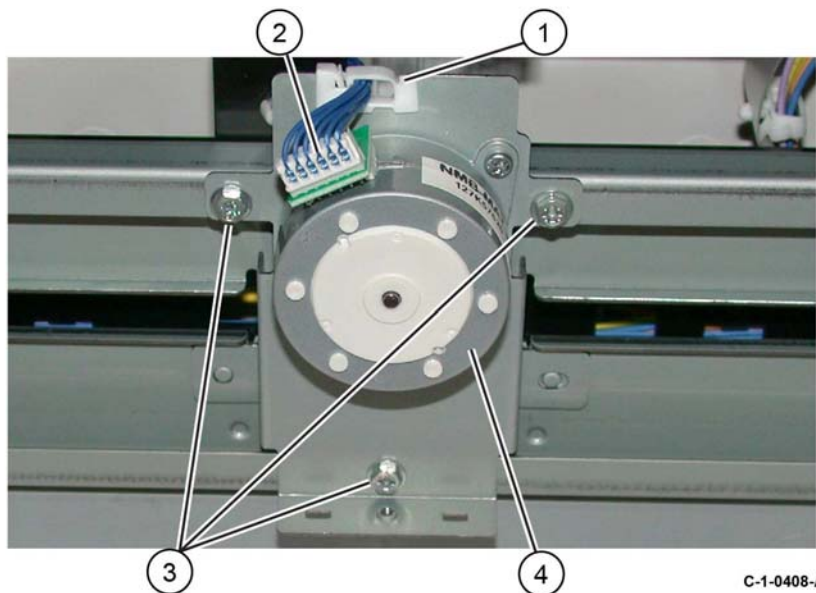

Figure 2 Booklet stapler move motor removal
3. Remove the booklet stapler move motor, **Figure 2**:
- a. Release the harness from the clamp (1).
- b. Disconnect the connector (2).
- c. Remove three screws (3).
- d. Remove the booklet stapler move motor (4).